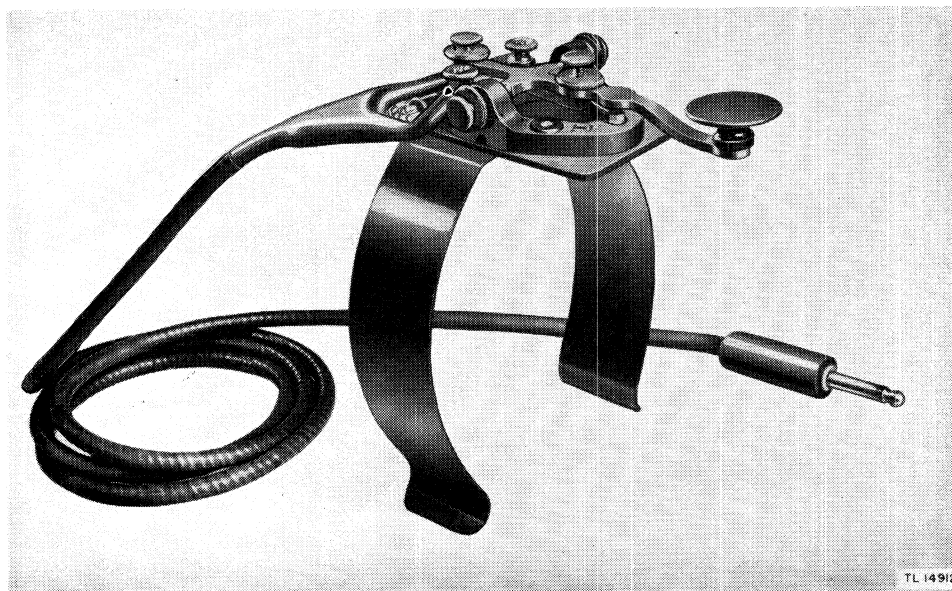

Figure 22. Key J-45 and Cord CD-201-A.
b. KEY J-45 (fig. 22). Key J-45 is a leg-type key which is connected to Radioteletypewriter Control C-535/GRC-26 by Cord CD-201-A. It is plugged into the C. W. KEYING jack. The spring metal snap on which the key is mounted is placed on the leg at a posi-